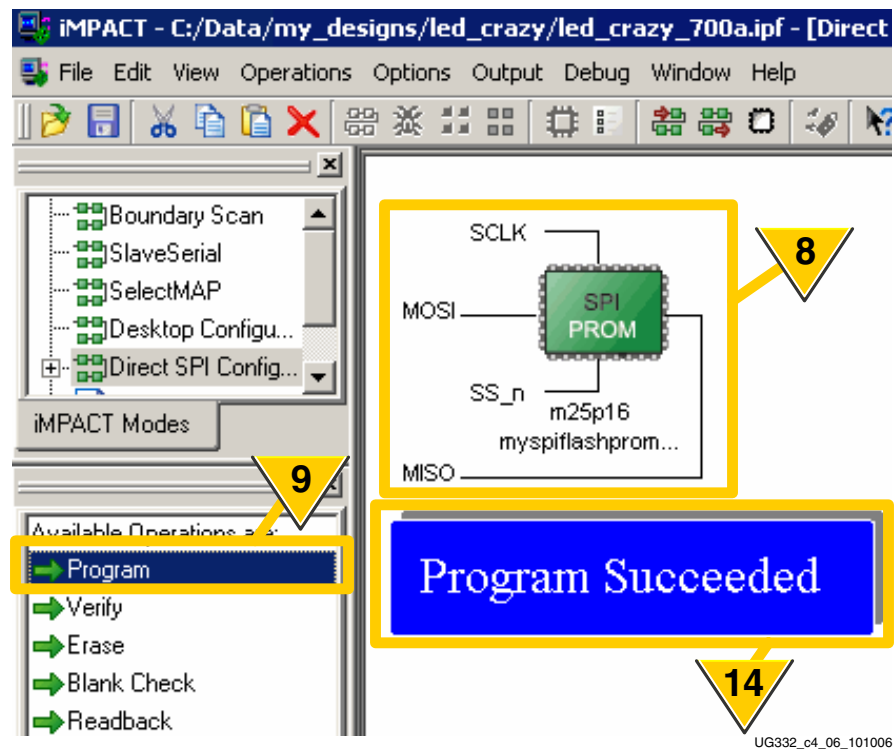

Figure 4-19: Directly Program Supported SPI Flash PROM.
- The iMPACT software displays the selected SPI Flash PROM, as shown in Figure 4-19.
14. The iMPACT software indicates successful programming, as shown in Figure 4-19.